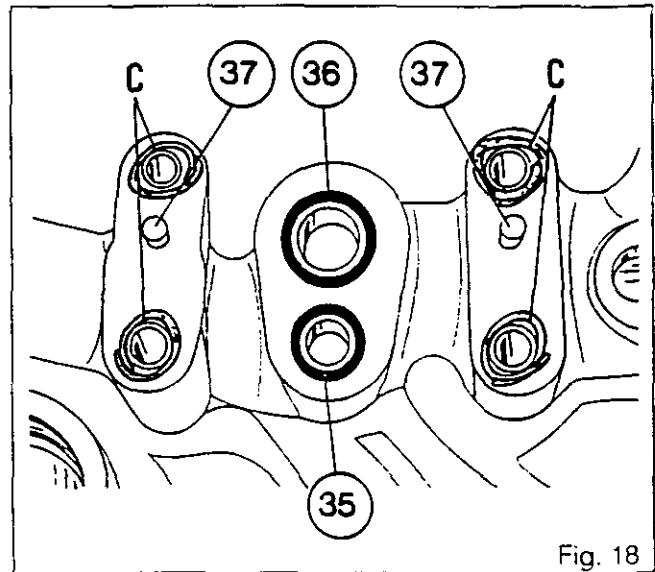

Fig. 18
92. Push the dowels (37) (if removed) into the cover (Fig. 18).
93. On the cover, fit new O-rings (35) and (36) in the counterbores of the high- and low-pressure channels (Fig. 18).
94. Inside the cover, apply a bead C of Loctite 575 around the four screw holes (Fig. 18).